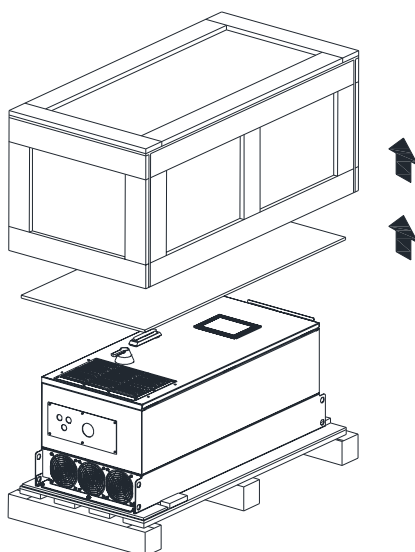

Figure 1-3
- 2) After removing the 6 fasteners, lift and remove the carton and EPE foams upward (see Figure 1-3 below). Open the outer lid of the model by the handle, and you will find the user manual and the keys for the outer lid attached to the inner side of the outer lid (see Figure 1-4). Please keep the keys safe as only 2 keys are included in each model, and the key cannot be replaced if lost.